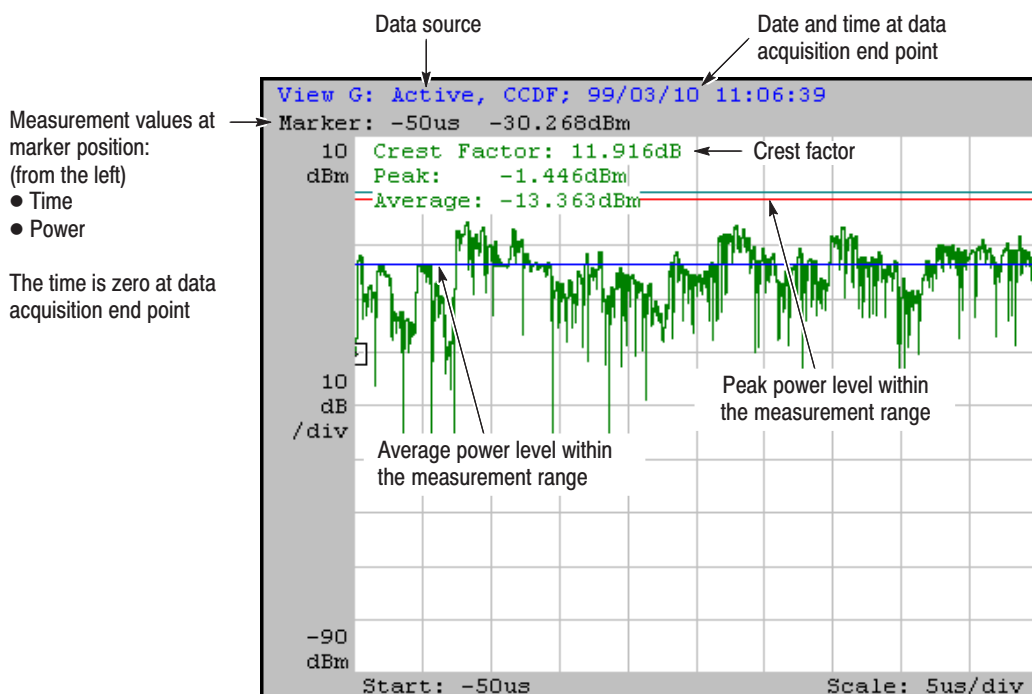

Figure J-2: CCDF measurement (View G)
7. Press **Execute** side key to start the process. The results are shown in View G and H (see Figure J-2 and J-3).